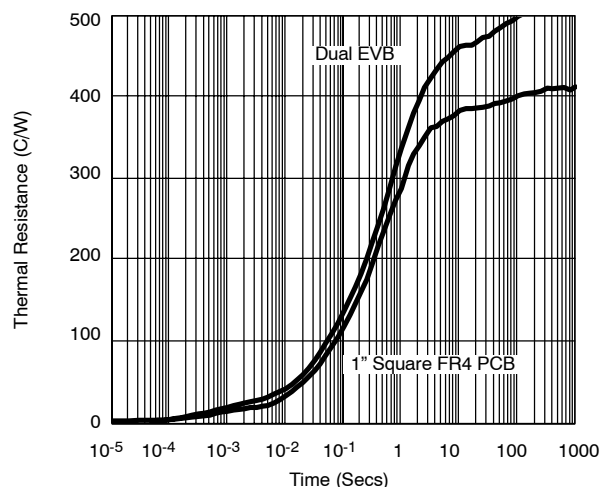

FIGURE 2. Comparison of Dual SC70-6 on EVB and 1" Square FR4 PCB.
To aid comparison further, Figure 2 illustrates the dual-channel SC-70 thermal performance on two different board sizes and two different pad patterns. The results display the thermal performance out to steady state. The measured steady state values of $R\theta_{JA}$ for the dual 6-pin SC-70 are as follows:
1) Minimum recommended pad pattern (see Figure 2) on the EVB of 0.5 inches x 0.6 inches.	518 °C/W